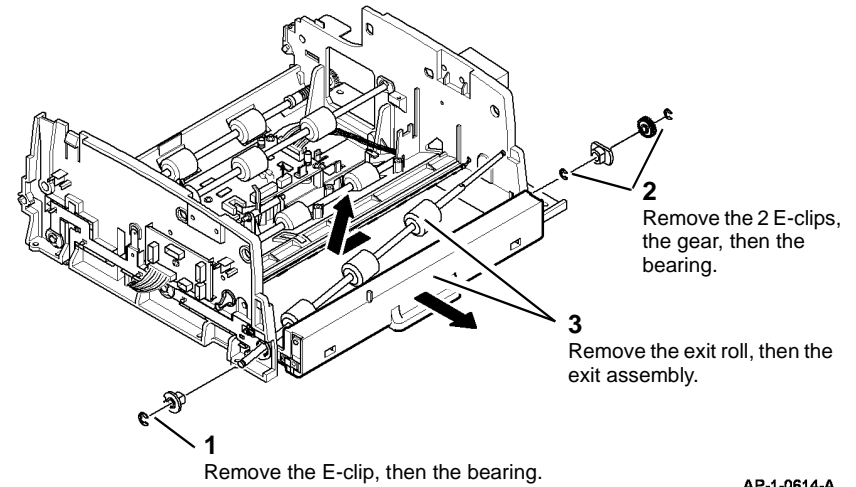

Figure 21 DADF Exit assembly removal
22. Remove the DADF exit assembly, Figure 21.